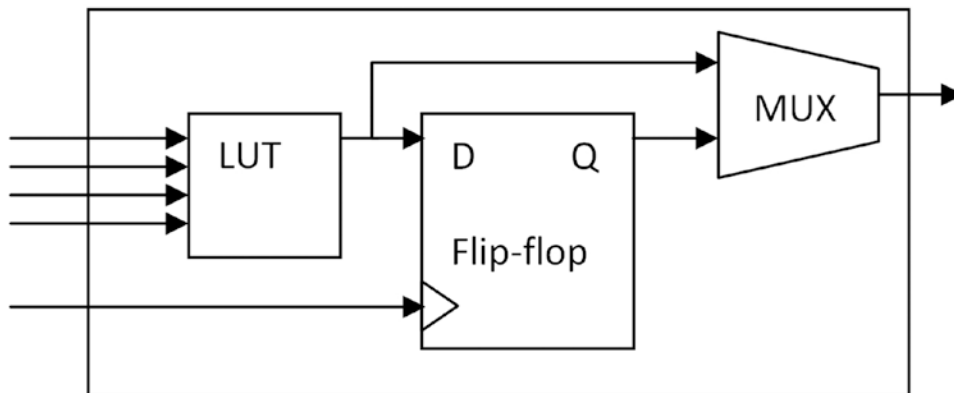
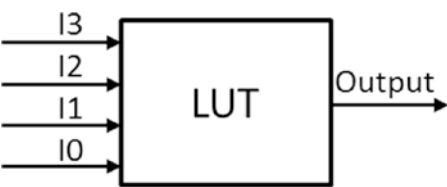

Figure 1-2. Basic configurable LEs
Figure 1-3. Four inputs, one output Boolean function
The logic element (LE) is one of the smallest elements in FPGA design. It basically consists of a look-up table (LUT), flip-flop, and multiplexer (which we will cover shortly). FPGAs are used extensively for compute problems that can benefit from parallel computing architectures—for example, cleaning up images being received from an image sensor, local processing on image pixels, and computing difference vectors in H.264 compression. LEs can form any complex or even simple digital function inside the FPGA. Figure 1-2 shows the basic configurable logic elements. Although different FPGA vendors have their own LE designs, they are very similar to the one shown in Figure 1-2. Most of the inputs to a LE are connected to the LUT and followed with a flip-flop (register). The output of the LE is selected by a multiplexer (MUX). The LUT and MUX are the major configurable blocks in the LE. Don’t worry, this will all make sense after you read the next section.
The LUT is basically just a small amount of read-only memory. A four-input, one output LUT, can generate any four-input Boolean function (AND/OR/XOR/NOT) (Figure 1-2). We will provide more details on Boolean function in Chapters 8 and 9. When you configure the FPGA, the contents of the LUT will be configured accordingly. Table 1-2 shows an OR gate with all four possible inputs the LUT supports. The four inputs act as an address bus, addressing one of 16 (2^4) stored bits; therefore it can emulate any Boolean function that can be handled in 4 bits (Figure 1-3). In some FPGA LE designs, LUTs can be combined to form a 16-bit shift register or memory block. There is another similar block, the MUX, in the basic LE. It is used to select the output source from a register or directly from LUT. In reality, the LEs are a bit more complex in that they may very well have more than one LUT and MUX.